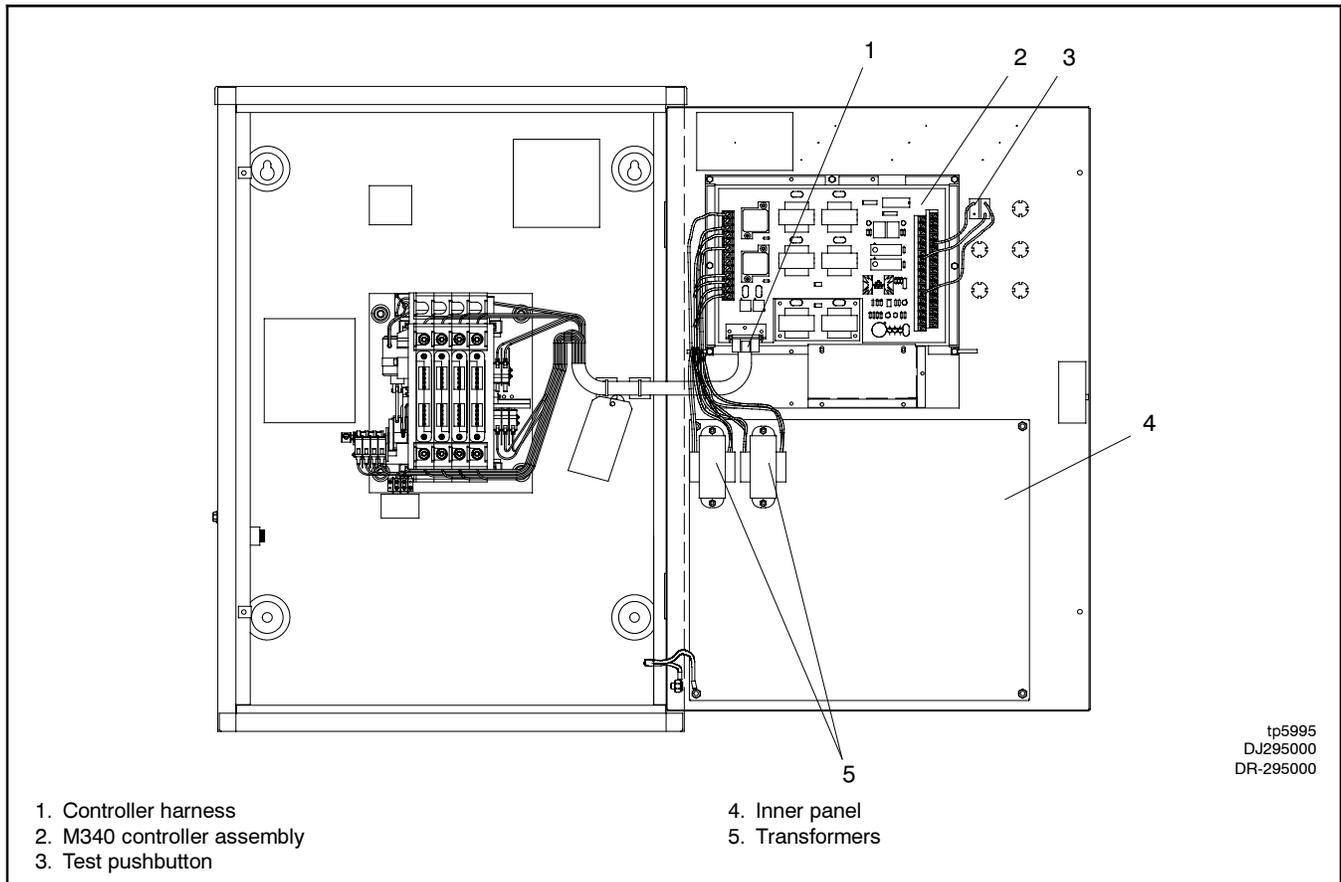

Figure 8 Model GLS-5 ATS with M340 Controls
6. Disconnect and remove the TEST pushbutton. See Figure 8.